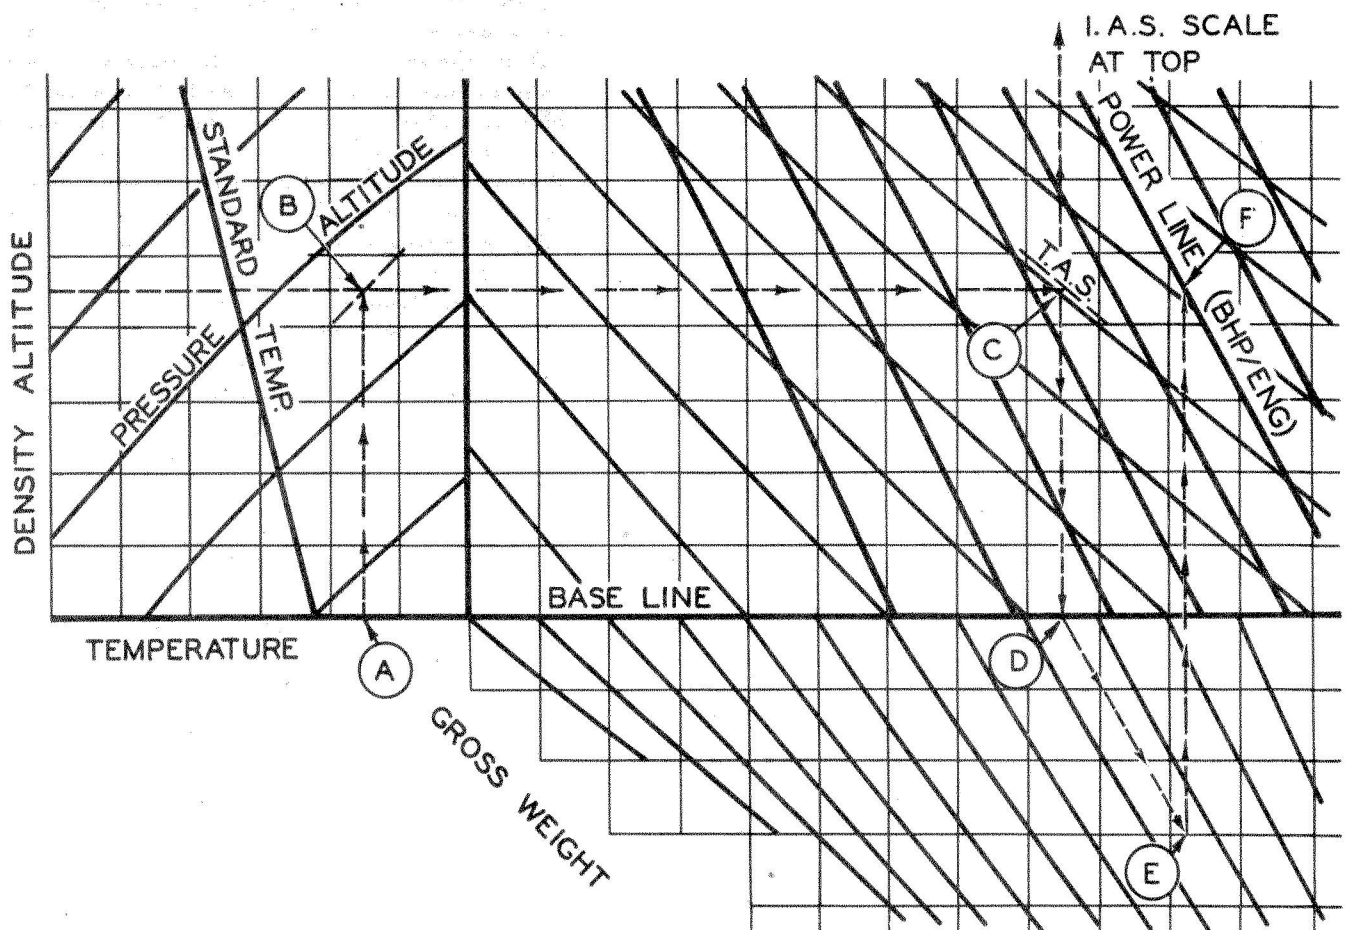

Figure 65
e. INSTRUCTIONS FOR USING THE CRUISING CONTROL CHART.—The Cruising Control Chart will give the power required to fly at a desired air speed or at the air speed for a selected power. Thus two methods may be employed in using the cruising control chart, depending upon which conditions of flight are chosen. Both methods are illustrated in the examples given below and in figure 65.